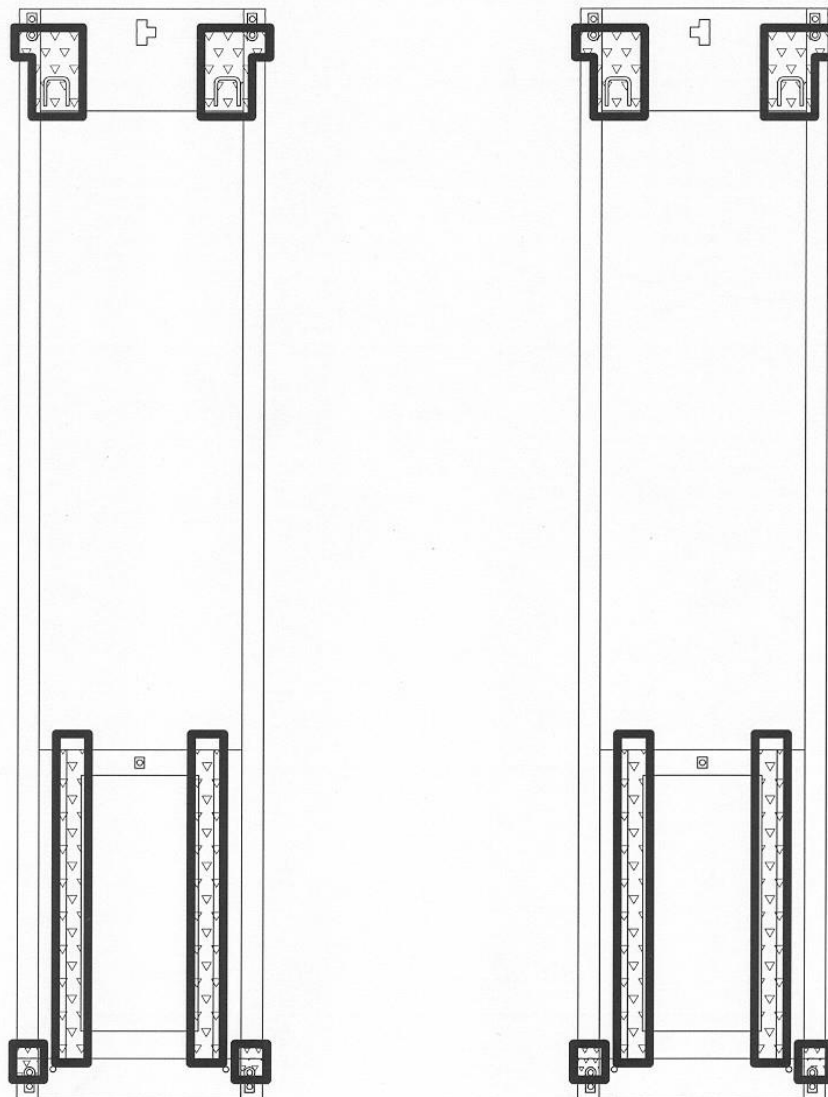

Figure 22 - Shimming
2. Level the base frames using the leveling bolts provided at each of the four (4) corners.
3. Use shims provided to support under glide block area of base frame and under front hinges. See Figure 22.